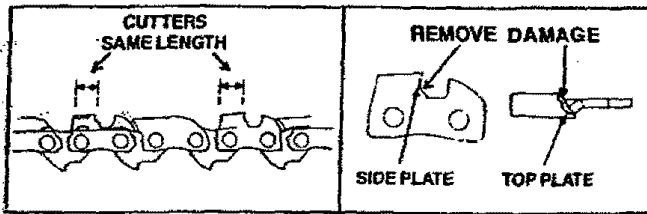

Figure 32
- d.) Keep all cutters the same length. Figure 32.
- e.) File enough to remove any damage to cutting edges (side plate and top plate) of cutter. Figure 32.